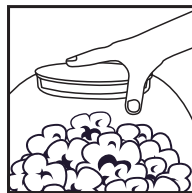

Fig. 5
7. Add the Measuring Cup to the top of the Cover (Fig. 5). It should fit securely into place.